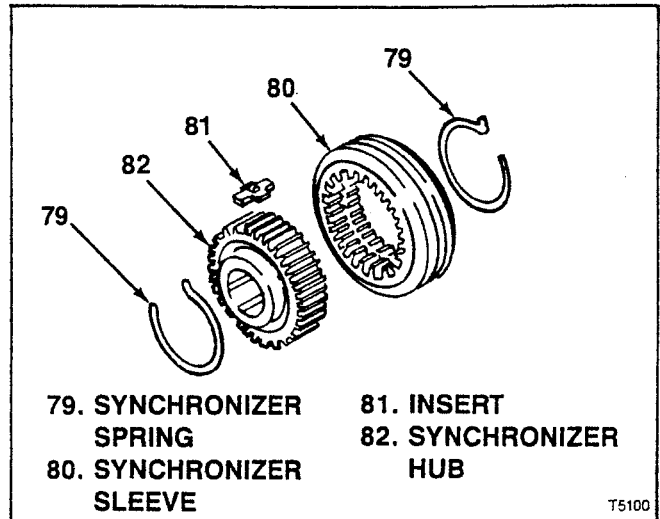

Figure 6-1. T5 WC 3rd-4th Synchronizer Assembly
- Bearing cone (64)
- Thrust bearing (68)
- Bearing cone (72)
- Needle bearing (84)
- 2nd speed bearing (89)
- Bearing cones (115)
6-6. ASSEMBLY OF T5 WC 3RD-4TH SYNCHRONIZER ASSEMBLY (see figure 6-1). Be sure to assemble sleeve (80) and hub (82) aligning marks made at disassembly (see figure 6-2) so that clutch teeth and part faces are assembled exactly as they were originally. Assemble as follows: